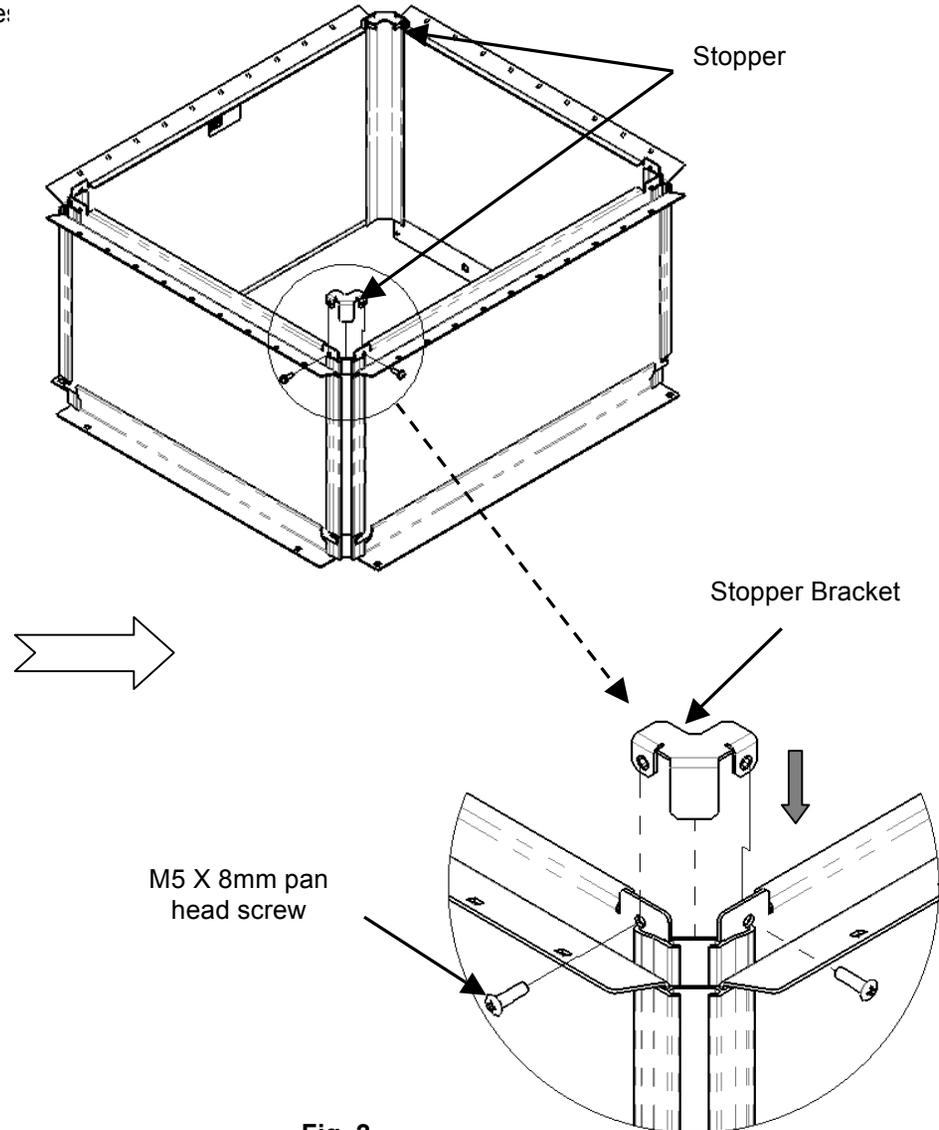

Fig. 2
4. Attach stopper bracket as shown at two opposite corner by using two M5 X 8mm Screw (Fig. 2).